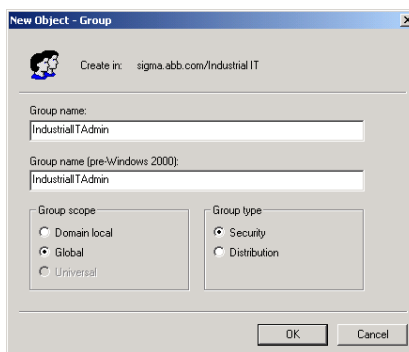

Figure 10. New Object - Group Dialog Box
3. A new dialog box opens (see Figure 10). Input the user group name in this dialog.